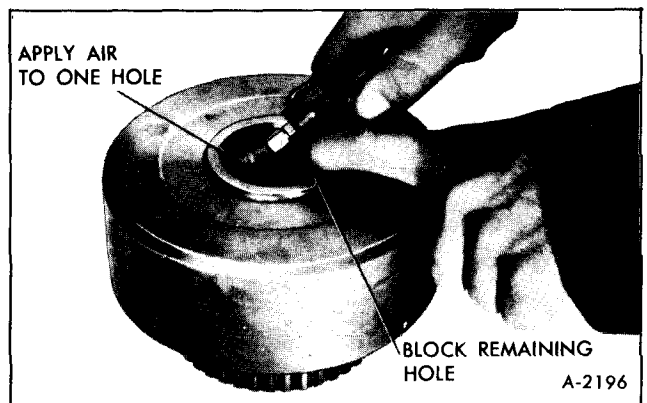

Figure 79—Air Check Forward Clutch Piston
11. Air check forward clutch and piston operation, Figure 79.